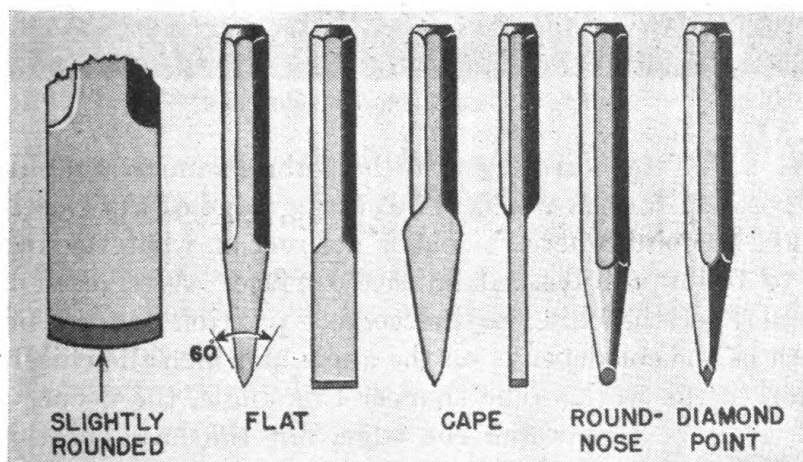

FIGURE 33.—Commonly used cold chisels correctly sharpened.
10. Chisels and chipping.—*a. General.*—Cold chisels are tools used for chipping or cutting cold metal by hand before its surface has been filed to a fit, an operation often required in automotive maintenance work. They are made of a good grade of tool steel, hardened at the point, sharpened to a cutting edge at one end and, in hand work, driven by a hammer. They will cut any metal softer than they are; in general, any material that can be cut with a file. They are classified (fig. 33) according to the shape of their points, the commonest shapes being flat, cape, roundnose, and diamond-point.